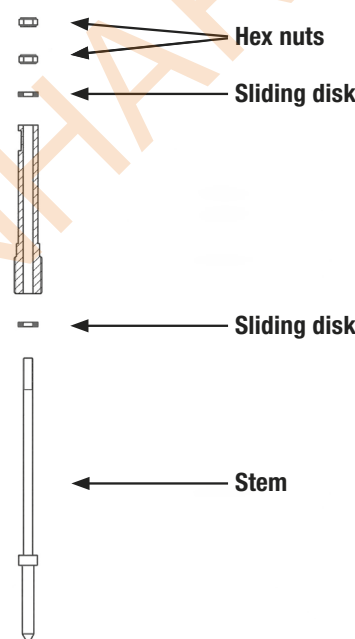

Figure 4
- Remove the handle from the stem by releasing the threaded pin with an Allen key. Then unscrew the stem from the packing pressure screw. Now remove the two hex nuts and the sliding disk on the upper part of the stem. Dismantle the existing part into its three components. To do this, pull the stem screw and the second sliding disk from the stem. In the case of valves with a larger stem tip, the pressure ring and seal also need to be removed. (see also Fig. 4)